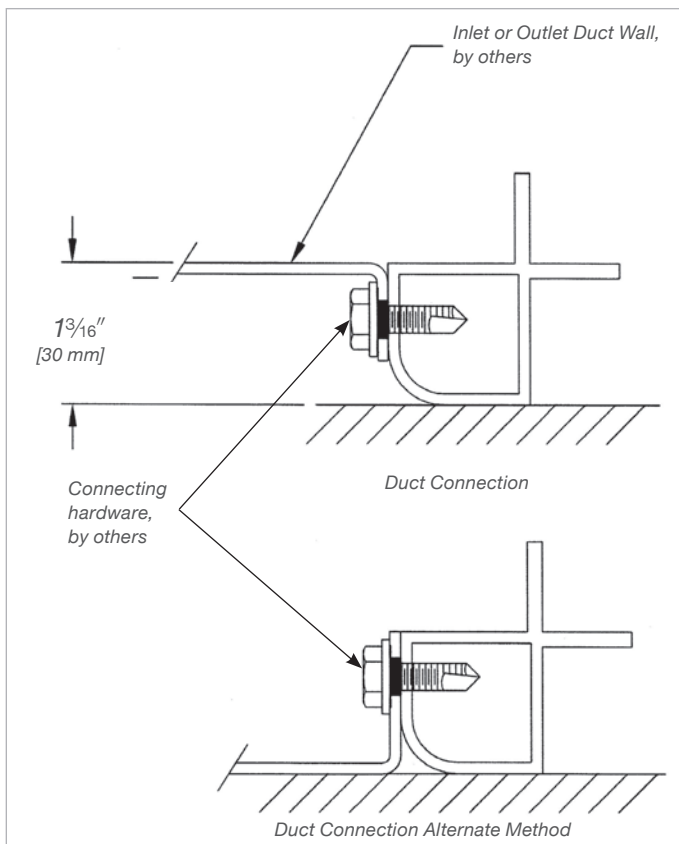

Figure 4
3.4.3 Connection of Inlet and Outlet Ducts: Inlet and outlet ducts, when required, shall be connected to the inlet and outlet faces of the housing as shown in Figure 4.